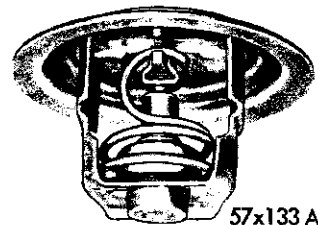

Fig. 6—Thermostat Assembly
(1) Visually inspect the thermostat (Fig. 6) to make sure the valve closes tightly. If the valve does not